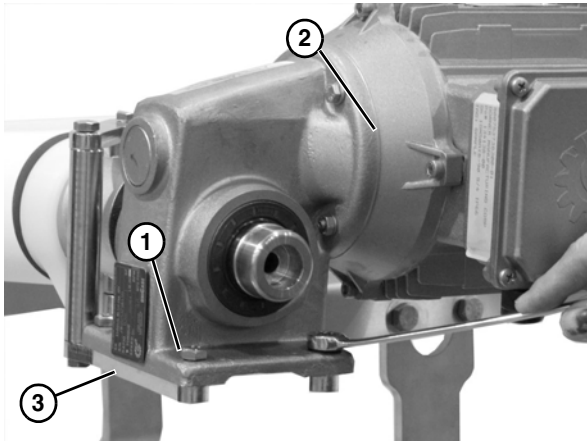

Figure 15
5. Remove the four bolts (**Figure 15, item 1**) that connect the gearmotor (**Figure 15, item 2**) to the gearhead mounting bar. (**Figure 15, item 3**)